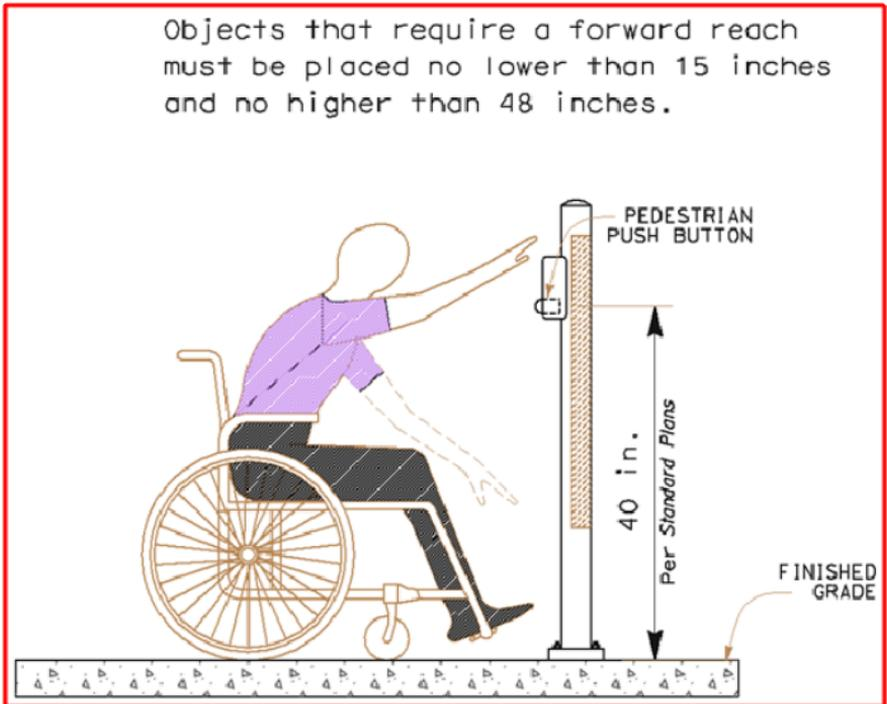

Figure 11. High Forward Reach (ADAAG)
- The pedestrian push button must have an unobstructed forward reach. For the exact height of the button, refer to the *Standard Plans*. (See Figure 11.)